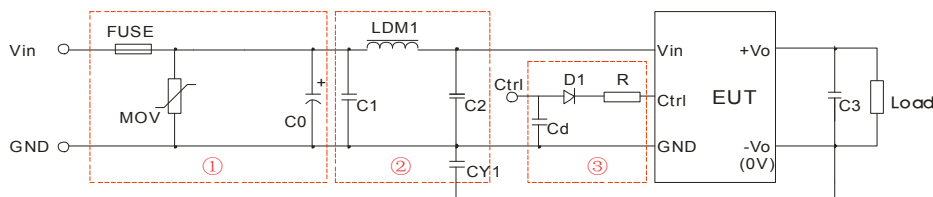

Fig. 3
- ① Part ① in Fig. 3 is used for EMS test while part ② is used for EMI filtering; and parts ① and ② may be selected based on needs.
- ②  $V_c$  is the voltage of the Ctrl end relative to the GND of the input grounding;  $V_D$  is the positive-going conduction pressure drop of D1;  $I_c$  is the current flows into the Ctrl end and its value is generally 5-10mA, see Fig. 3-③ for the peripheral circuit of Ctrl end;
- ③ If there is no recommended parameters, no external component is required.